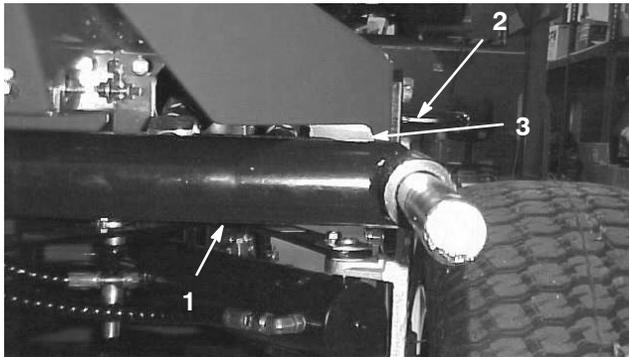
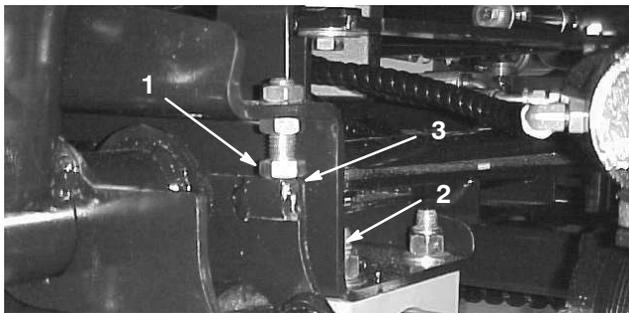
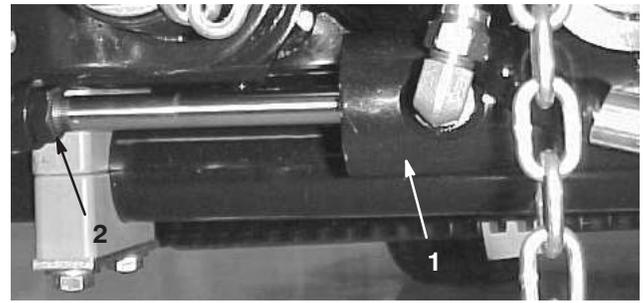

Figure 6
Figure 7
Figure 8
1. Start the engine, raise the decks, and check to make sure that the clearance between each lift arm and the floor plate bracket is .18–.32 in. (5–8 mm) (Fig. 6). If the clearance is not in this range, back off the stop bolts (Fig. 7) and adjust the cylinder to attain clearance. To adjust the cylinder, back off the jam nut on the cylinder (Fig. 8), remove the pin from the rod end, and rotate the clevis. Install the pin and check the clearance. Repeat the procedure if required. Tighten the clevis jam nut.
2. Check to make sure that the clearance between each lift arm and stop bolt is 0.005–0.040 in. (0.13–1.02 mm) (Fig. 7). If the clearance is not in this range, adjust the stop bolts to attain clearance.